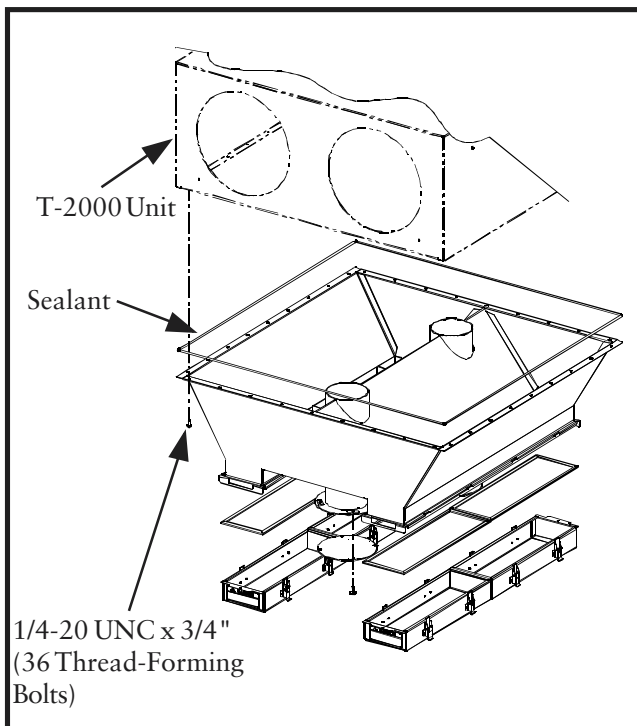

Figure 5
4. Add sealant to the hopper flange. See Figure 5, Installation of Hopper Assembly.
5. Use the supplied thirty-six (36) 1/4-20 UNC x 3/4" thread-forming bolts to join the hopper to the T-2000 unit. See Figure 5, Installation of Hopper Assembly. Remove the two round covers to install the Flex-Trunk arms to the unit. See the installation instructions in the Flex-Trunk Installation and Operation Manual IOM-40779-00 and AEX Plus/Flex-Trunk Plus Extraction Arms Installation and Operation Manual IOM-75366-01.